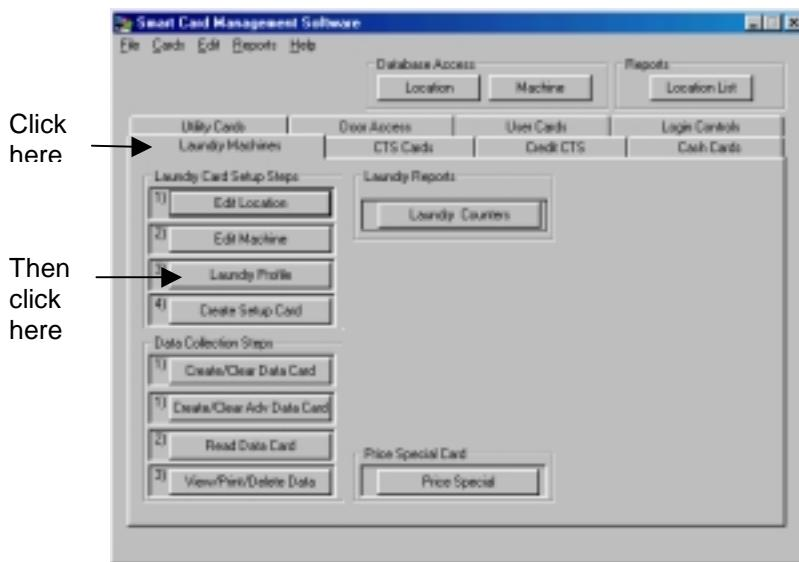

Figure 3.12 Opening the Laundry Profile Manager
1. Click the **Laundry Machines** tab in the main screen (Figure 3.12).
2. Click the **Laundry Profile** button (Figure 3.12).